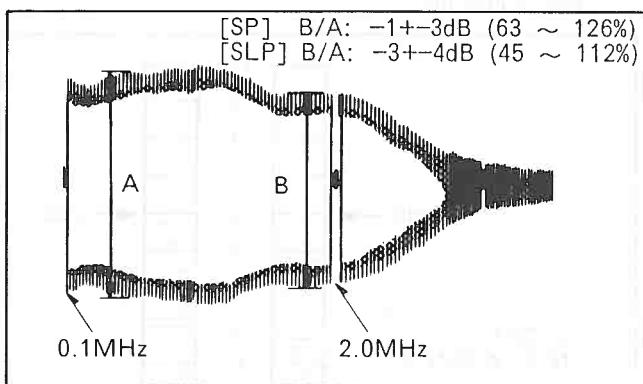

Fig. E11
- Adjust VR3012 so that the Frequency Response becomes $B/A=-1+-3dB$ as shown in Fig.E11.
- Adjust VR3013 so that the Frequency Response becomes $B/A = -3+-4dB$ as shown in Fig.E11.